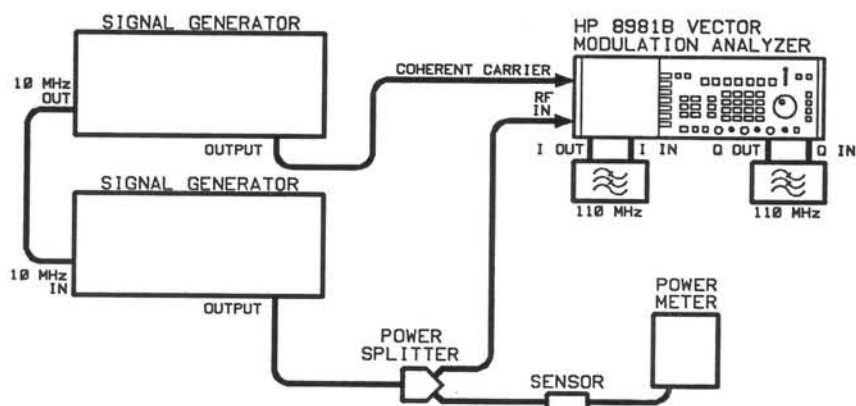

Figure 4-14. Demodulated I and Q Bandwidth Test Setup
6. Connect the equipment as shown in Figure 4-14. The cable connected to the RF IN connector on the Vector Modulation Analyzer should be matched (type and length) with the cable connected to the power sensor. This will minimize errors due to cable losses.